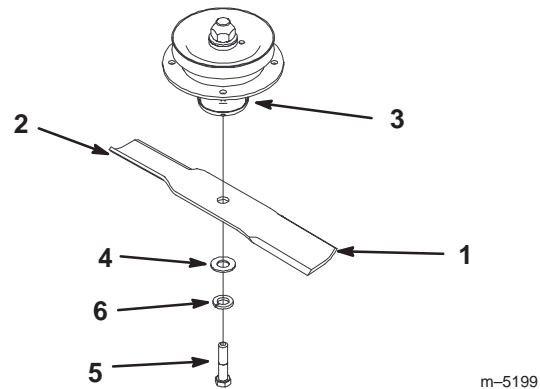
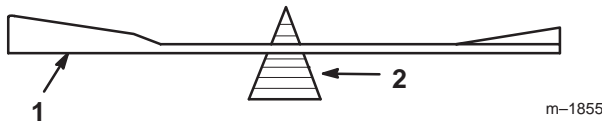

Figure 44
Figure 46
- Hold the blade end using a rag or thickly-padded glove. Remove the blade bolt, washer, lock washer and blade from the spindle shaft (Fig. 44).
2. Check the balance of the blade by putting it on a blade balancer (Fig. 46). If the blade stays in a horizontal position, the blade is balanced and can be used. If the blade is not balanced, file some metal off the end of the sail area only (Fig. 44). Repeat this procedure until the blade is balanced.
1. Install the blade onto the spindle shaft (Fig. 44).
Important The sail part of the blade must be pointing upward, toward the inside of the mower to ensure proper cutting (Fig. 44).
2. Install the washer, lock washer and blade bolt (Fig. 44). Torque the blade bolt to 85–110 ft-lb (115–140 N•m).